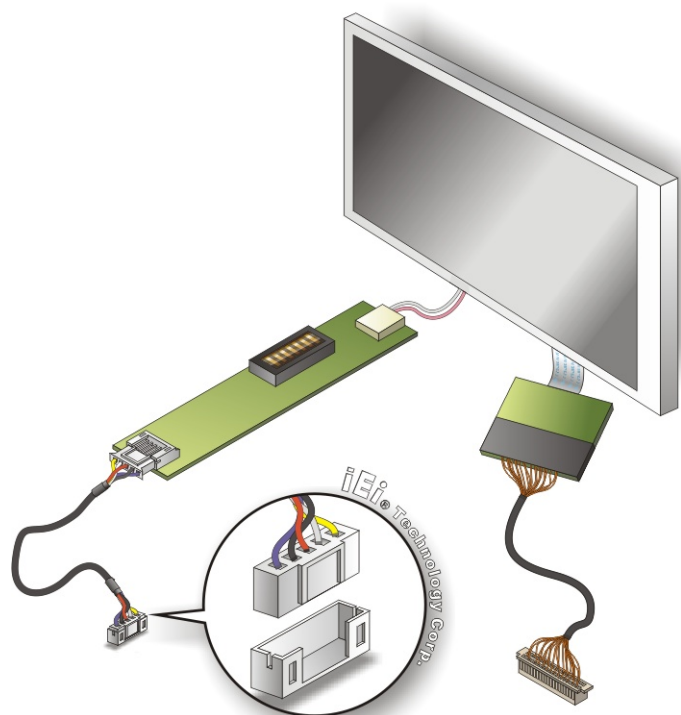

Figure 4-9: Backlight Inverter Connection
Step 4: Connect backlight connector. Connect the backlight connector to the driver TFT LCD PCB as shown in **Figure 4-9**. When inserting the cable connector, make sure the pins are properly aligned.